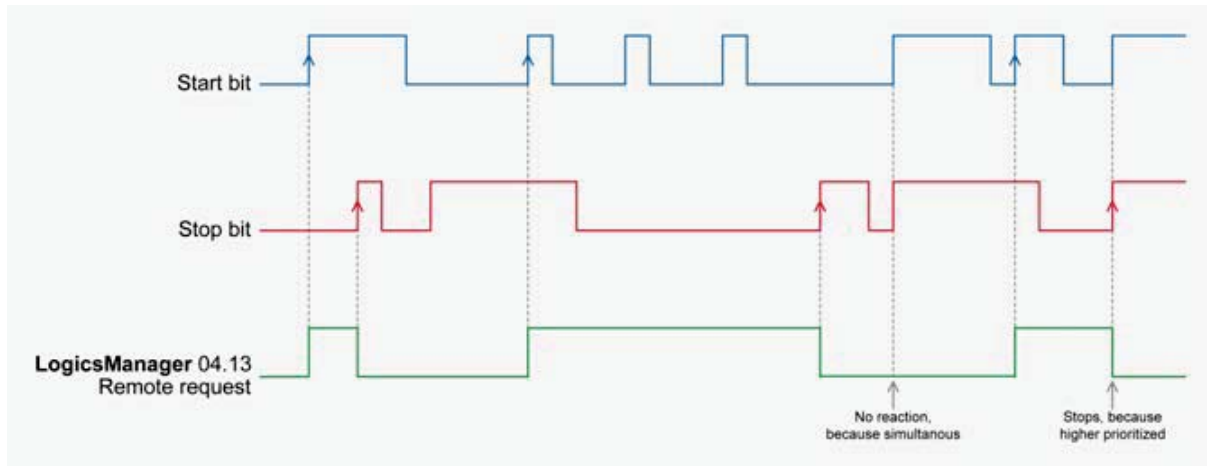

Fig. 203: Command variable
- The command variable "04.13 Remote request" changes to "0" (low) if the stop bit (ID 503, bit 1) changes from "0" to "1" (Fig. 203).